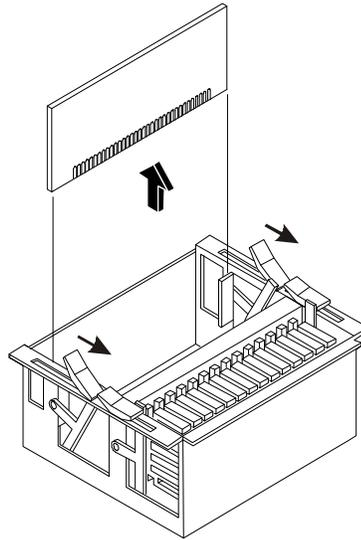

Figure 7-2. Removing the Terminating Resistor Module
1. Remove the terminating resistor module from the secondary processor slot as shown in the following illustration. First, unclip the two plastic securing clips that hold down the resistor module. Hold the resistor module by its edges and pull directly upward (see Figure 7-2).